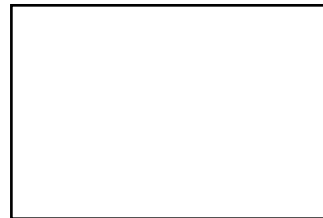

Figure 9
- 4 Attach air hose to air coupler. (See Figure 9.)